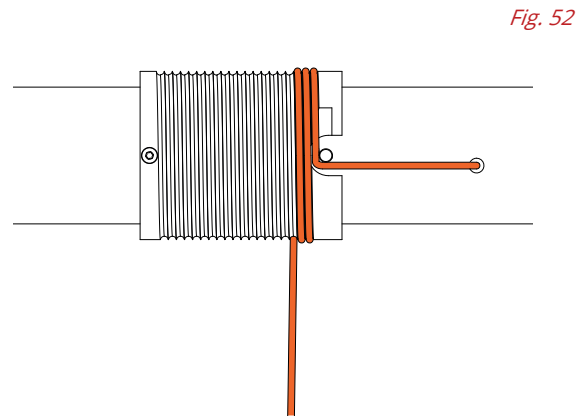

Fig. 52
**5 / PASS THE VERTICALLY TENSIONED CABLE UNDER THE DRUM LOCKING AXLE AND PULL IT TO THE RIGHT, IN LINE WITH THE SHAFT. (FIG. 52)**